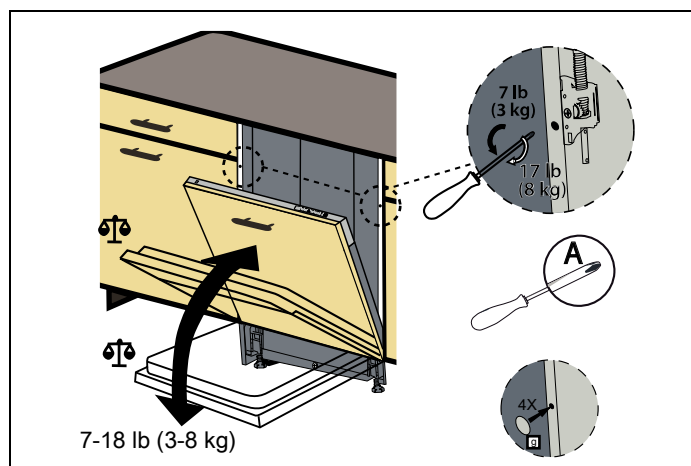

Fig. 23
- 8) According to the weight of the assembled wooden door, the balancing must be provided by the mechanism shown in Fig. 23 .